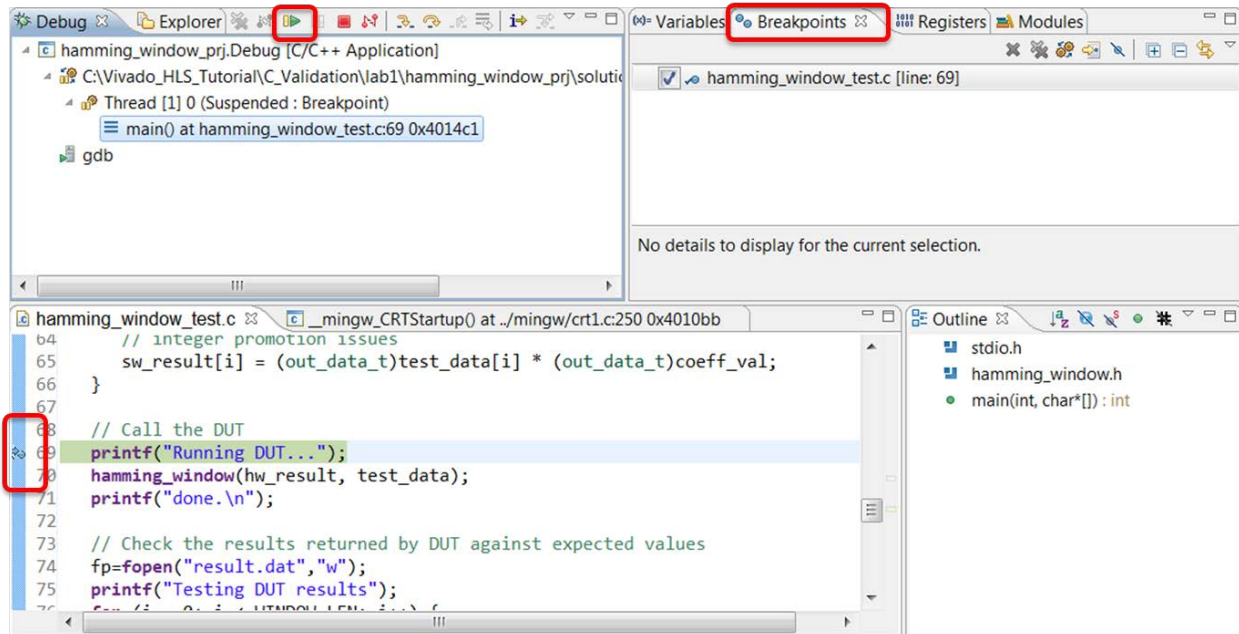

Figure 42: Using Breakpoints
8. Double-click in the left margin to create a breakpoint (blue dot), as shown in Figure 42.
9. Activate the Breakpoints tab, also shown in Figure 42, to confirm there is a breakpoint set at line 69.
10. Click the **Resume** button (highlighted in Figure 42) or the F8 key to execute up to the breakpoint.